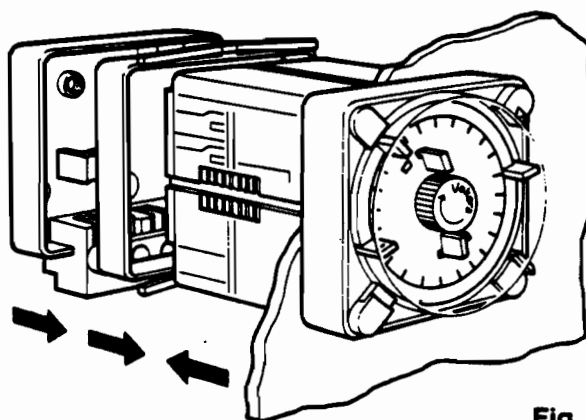

Fig. 3
- 10.7 Push the clock through the aperture in the panel and slide the fixing strap over the body pushing it home against the rear of the panel to hold the clock firm. Figs 3 & 4.